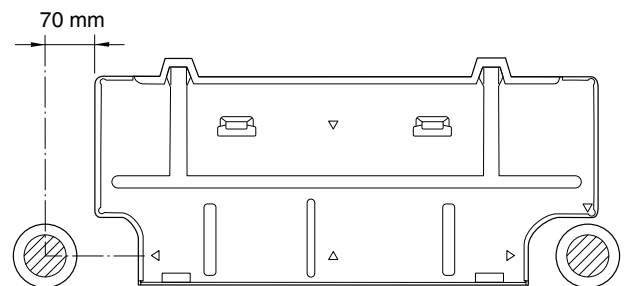

Fig. 3-15
- (1) Place the rear panel from the indoor unit on the wall at the location selected. Make sure the panel is horizontal, using a carpenter's level or tape measure to measure down from the ceiling. Wait until after cutting the hole before attaching the rear panel to the wall.
- (2) Determine which side of the unit you should make the hole for tubing and wiring. (Fig. 3-15)
In the case of left-rear tubing, use the measurement points from the edge of the rear panel for precise placement of the hose outlet. (Fig. 3-15)